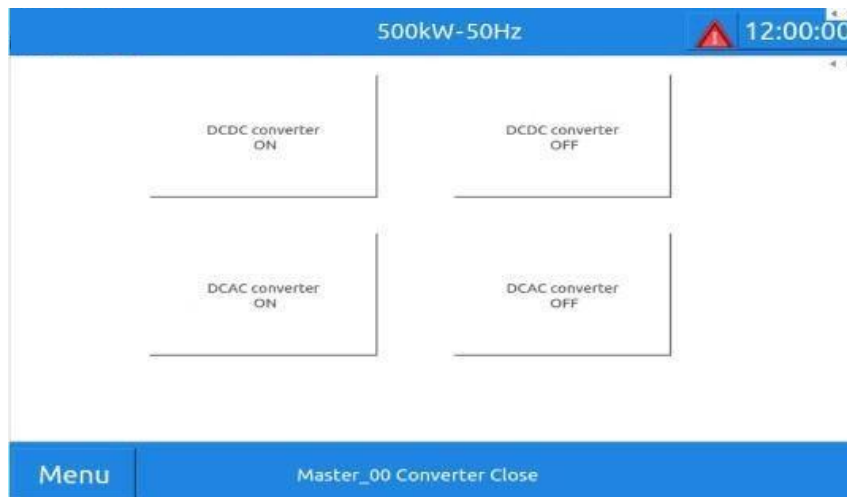

Figure 7-4 Startup and shutdown main interface
- (7) The converter is turned on. Click "Menu" → "Switch" → "DCAC Inverter On" in the lower left corner of the monitor (as shown in Figure 7-4). The inverter is soft-started. After the soft-start is completed, the AC contactor pull-in sound will be heard. At this time, the status of the converter displayed in the lower corner of the monitoring main interface will change to "converter off-grid discharge" or "converter off-grid discharge". The inverter is connected to the grid for charging" or "The inverter is connected to the grid to discharge". At this time, the inverter is running normally.
(1) Shutdown of the photovoltaic controller. Click "Menu" → "Switch" → "DCDC Converter Off" in the lower left corner of the monitor, click "DCDC" Converter Off", and the PV controller status displayed in the lower right corner of the monitoring main interface will have "Converter xMPPT" " becomes "standby". At this time, the PV controller stops working.(As shown in Figure 7-4 above)
(2) The converter is turned off. Click "Menu" → "Switch" → "DCAC Converter Off" in the lower left corner of the monitor. After clicking "DCAC Converter Off", you will hear the AC contactor disconnecting sound. At this time, the change displayed in the lower corner of the monitoring main interface The converter status will change to "Converter closed". At this point the converter stops working.